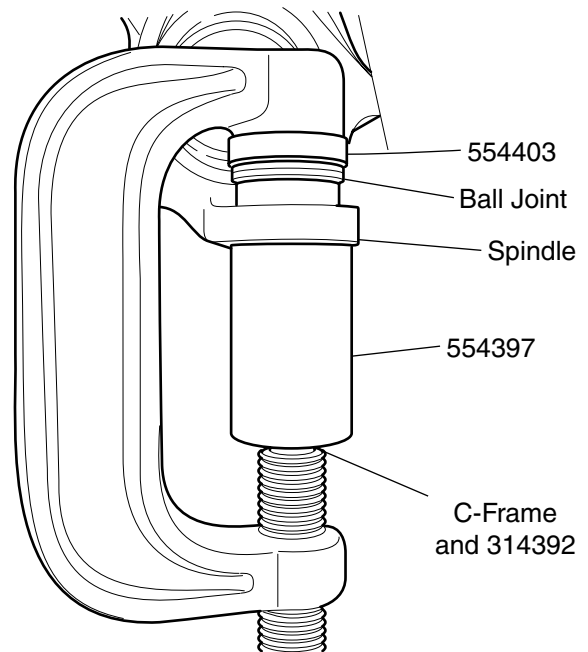

Figure 2. Ball Joint Installation
3. Position 554403 and 554397 on the ball joint as shown in Figure 2.